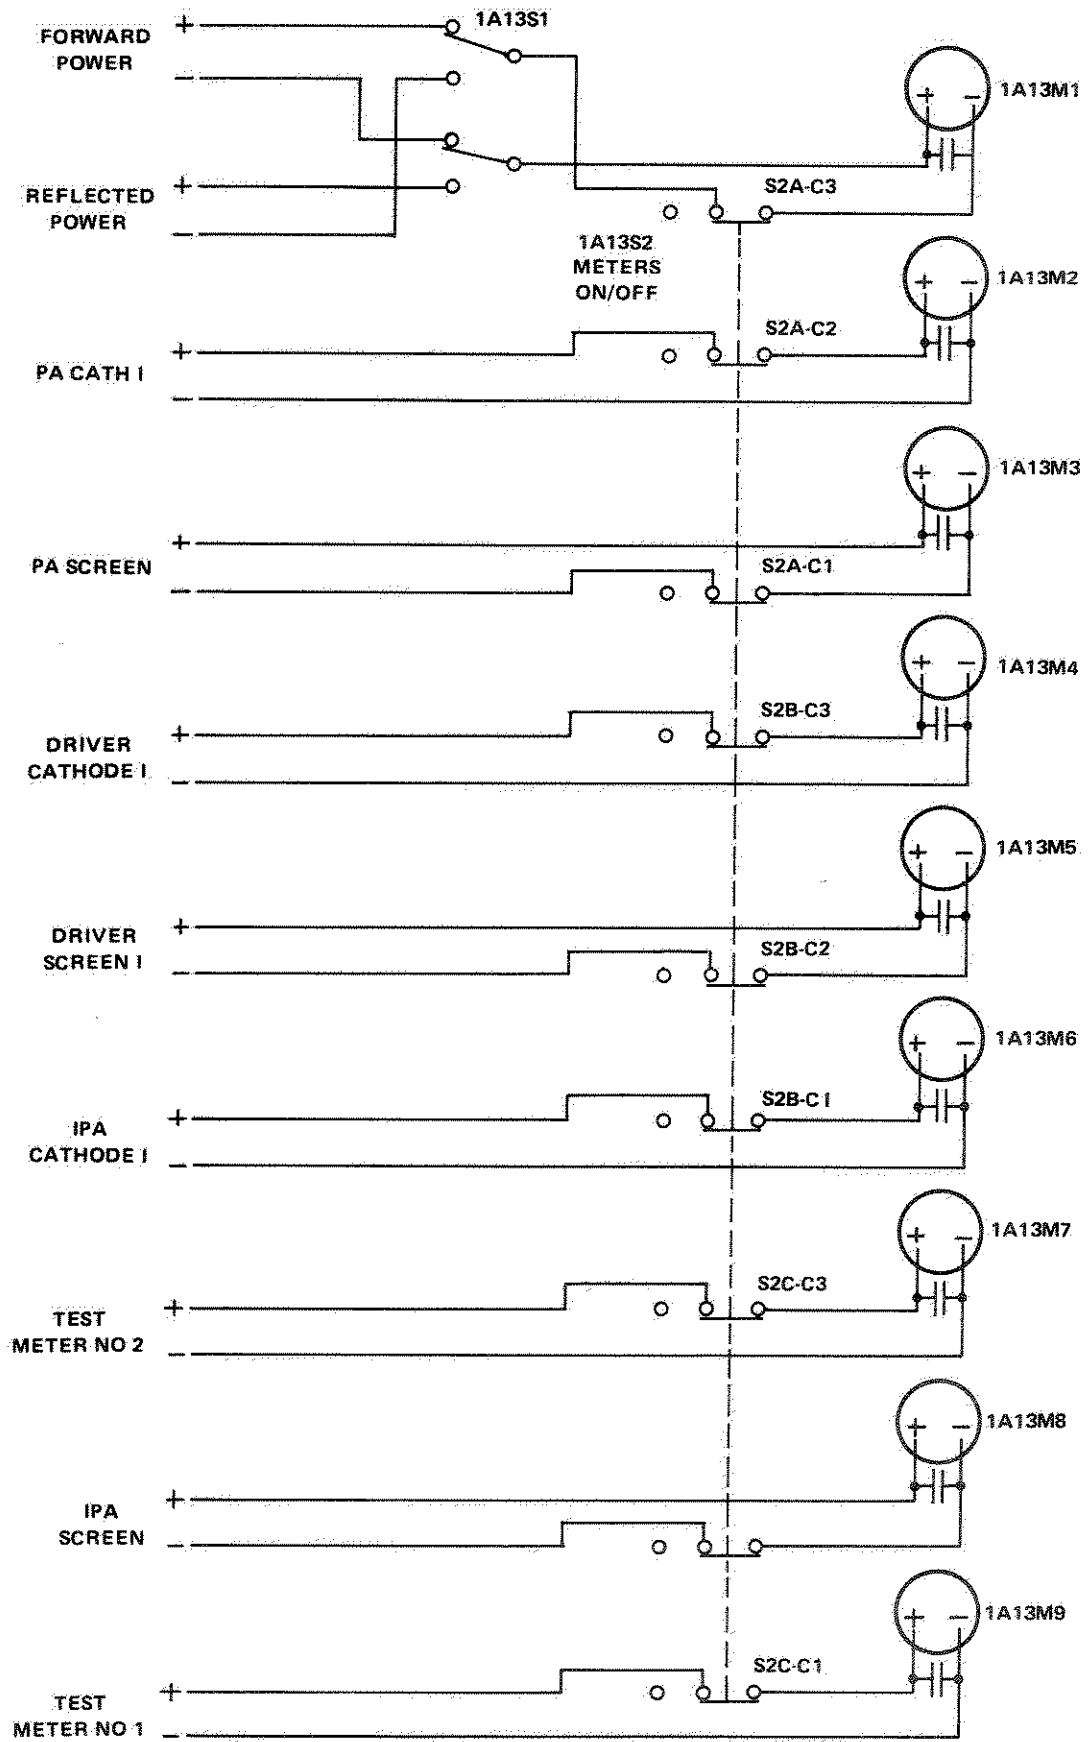

Figure 5-18. Meter Panel 1A13 Simplified Schematic.
Figures 5-18 and 5-19 are simplified schematics of meter inputs switching and routing. Meter Assembly panel 1A13 is located at the top of cabinet 1 controls section. CATHODE and SCREEN GRID current meters cover IPA, driver amplifier, and PA stages. The POWER (KW) meter shows forward and reverse PA output, as selected by RF POWER switch 1A13S1. The remaining transmitter parameters are displayed on test meters 1A13M9 and 1A13M7, as selected by switches 1A1S1 and 1A1S2 on CONTROL/STATUS panel 1A1.